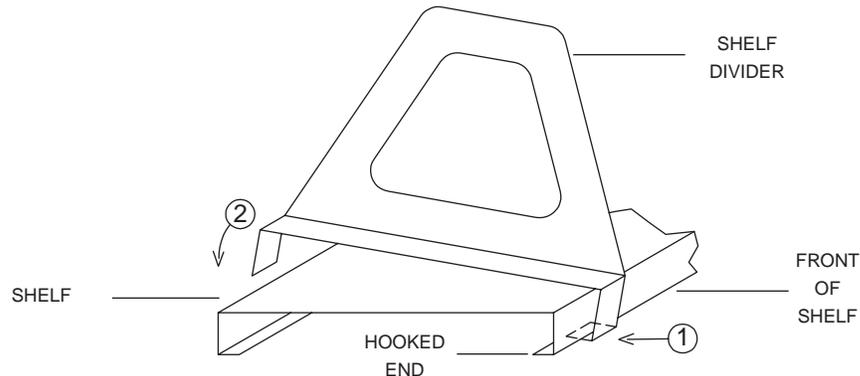

FIG. 3
The "shelf divider" can be located at any point along the shelf (Figure 3).
4. From under the cabinet, install (4) #8 x 3/8" self-tapping screws through the slots in the side panel support flanges (Figure 3). **DO NOT** tighten the screws down completely.
5. At the lower edge of the cabinet, install (2) #8 x 3/8" self-tapping screws through the back and into the shelf (Figure 3). **DO NOT** tighten the screws down completely.